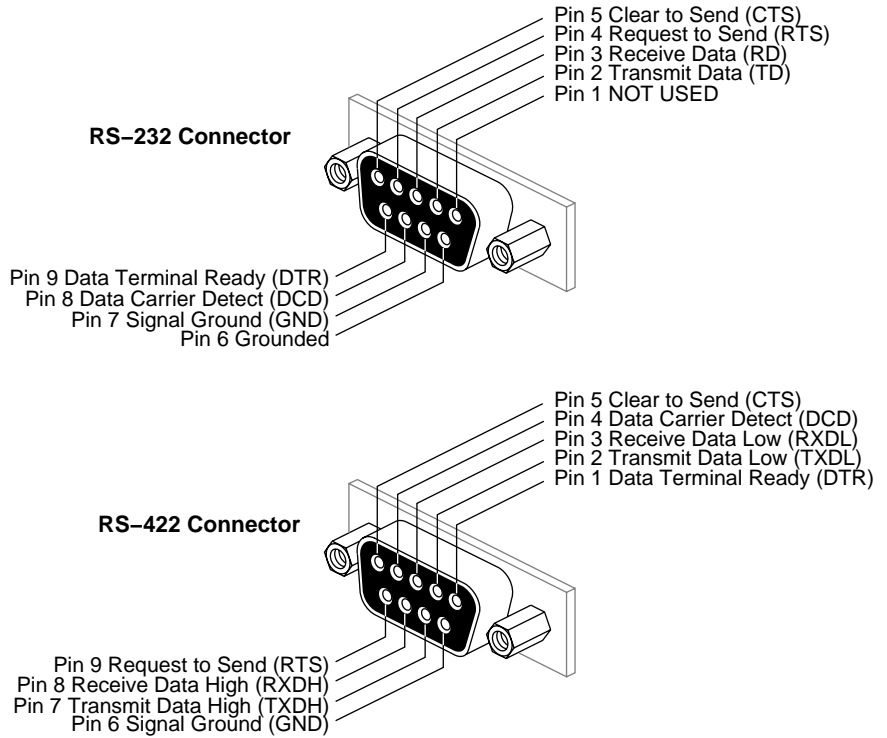
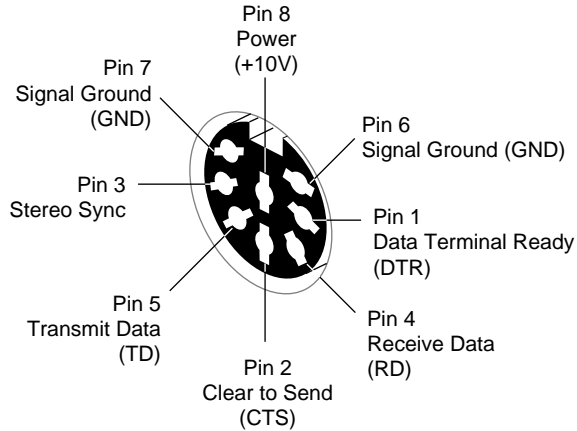

Figure 2-4 RS-232 and RS-422 Serial Connectors
Figure 2-5 RS-232 Powered 8-Pin DIN Connector
- A 9-pin RS-232 unpowered D-sub connector (see Figure 2-4)
- A 9-pin RS-422 unpowered D-sub connector (see Figure 2-4)
- An 8-pin RS-232 powered DIN connector (see Figure 2-5)
Both powered and unpowered serial connectors are provided on the Challenge deskside system. Terminals, modems, printers, and other peripherals with independent power sources use the 9-pin sub-D connectors (see Figure 2-4 and Table 2-3). Powered peripherals use a circular 8-pin DIN connector for data and DC power (see Figure 2-5 and Table 2-3).
The SCSI drive rack (shown in Figure 2-5) is a vertically oriented enclosure, with seven half-height drive bays. Each bay is defined by a sheet-metal drive tray. The SCSI drive sled slides into the tray and locks in place with its connectors pushed into the SCSI backplane. The sheet-metal drive trays can be removed to allow the installation of full-height devices.